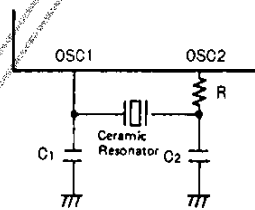

Fig. 3 Ceramic Resonator Oscillation Circuit
| Ceramic Resonator Oscillation | | Fig. 3 | | See Table 1. | | |
| Ceramic Resonator Oscillation | I_{DDOP} (3) | V_{DD} : Fig. 3 $V_{DD} = 4$ to 5.5V, 4MHz, 1/3 predivider | | 5 | 10 | mA |
| | I_{DDOP} (4) | V_{DD} : Fig. 3 $V_{DD} = 4$ to 5.5V, 4MHz, 1/4 predivider | | 5 | 10 | mA |
| | I_{DDOP} (5) | V_{DD} : Fig. 3 400kHz | | 1.5 | 4 | mA |
| | I_{DDOP} (6) | V_{DD} : $V_{DD} = 4$ to 5.5V, Fig. 3 800kHz | | 2 | 5 | mA |
| Oscillation Frequency | f _{CFOSC} (Note 4) | OSC1, OSC2: Fig. 3 f ₀ = 400 kHz OSC1, OSC2: V _{DD} = 4 to 5.5V, Fig. 3 f ₀ = 800 kHz OSC1, OSC2: V _{DD} = 4 to 5.5V, Fig. 3 f ₀ = 3 MHz, 1/3 predivider, 1/4 predivider OSC1, OSC2: V _{DD} = 4 to 5.5V, Fig. 3 f ₀ = 4 MHz, 1/3 predivider, 1/4 predivider | 392 784 2940 3920 | 400 800 3000 4000 | 408 816 3060 4080 | kHz kHz kHz kHz |
Note 1: When oscillated internally under the oscillating conditions in Fig. 3, up to the oscillation amplitude generated is allowable.